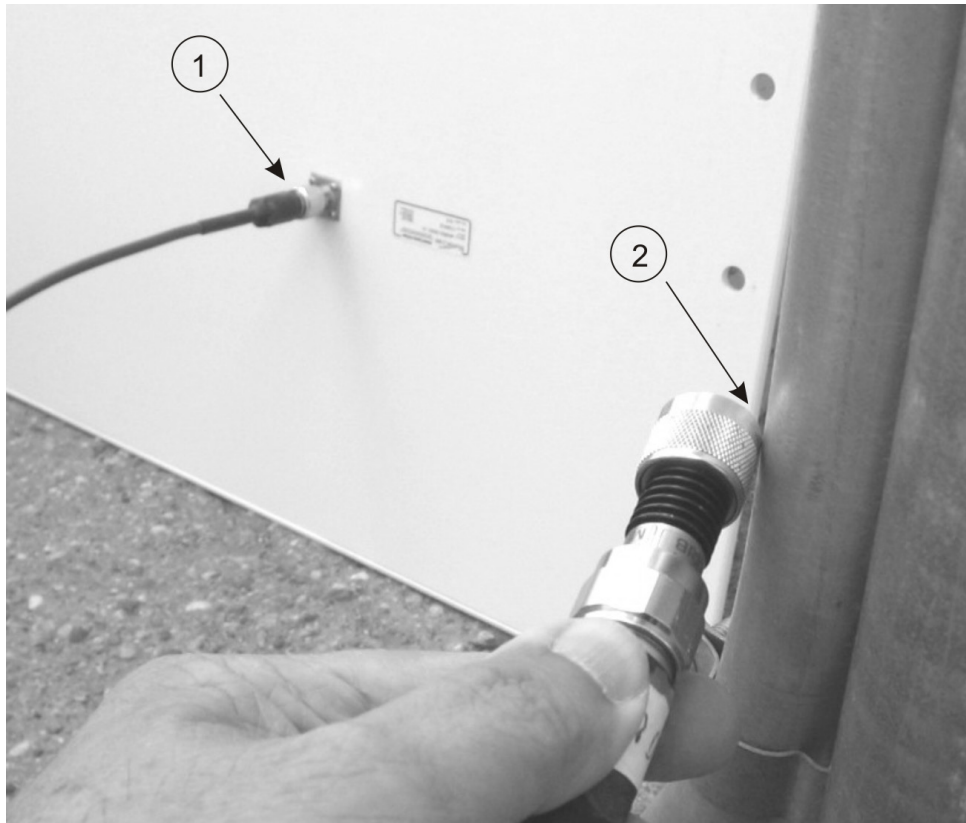

Figure 41 Short Load to Earth Ground
2. Connect the RF cable to the antenna (see item 1 in Figure 41)
3. Short the outer metal case of the load or attenuator to Earth Ground for approximately 10 seconds (item 2 in Figure 41). In this example, the installer is using the electrical conduit for Earth Ground.